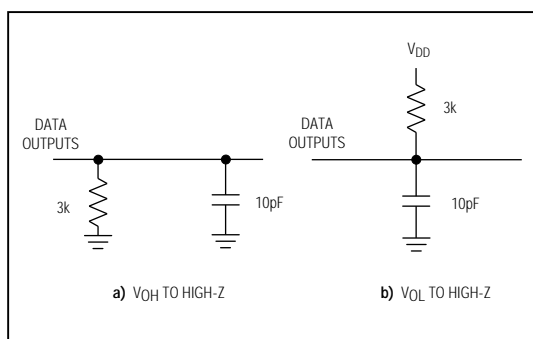

Figure 2. Load Circuits for Data-Hold Time Test
**Note 6:** See Figure 2 for load circuit. Parameter defined as the time required for the data lines to change 0.5V.